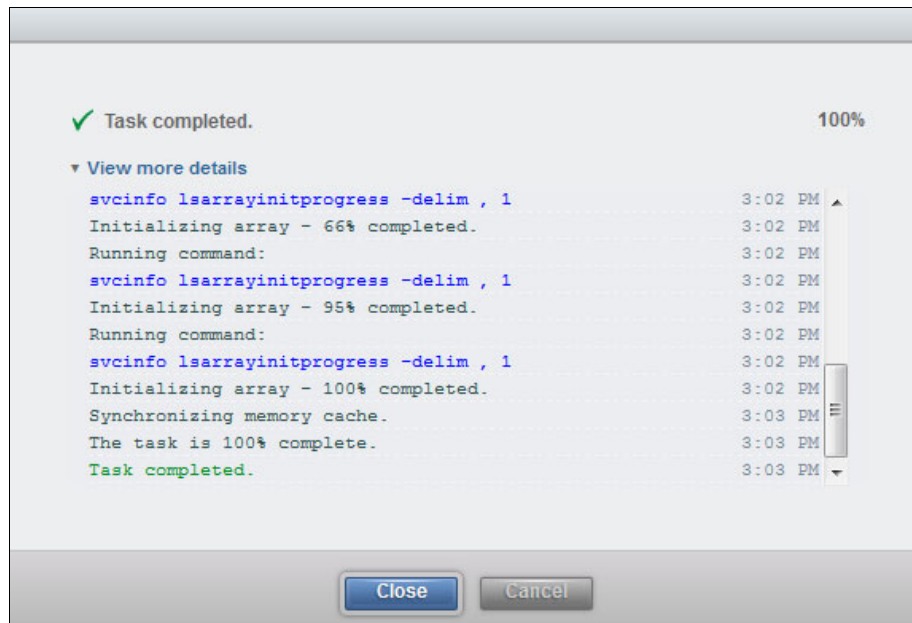

Figure 5-9 Task completed
6. Click **Finish**. After some minutes, the array is initialized and the task finishes (Figure 5-9).